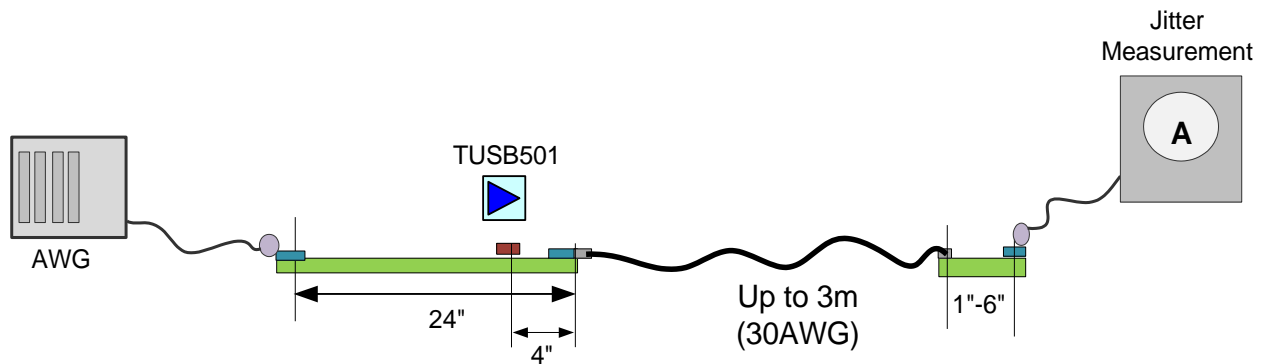

Figure 1. Jitter Measurement Setup
| $T_{\text{JTX-EYE}}$ | Total jitter ⁽¹⁾ ⁽²⁾ | EQ = Floating, OS = High, DE = High See Figure 1 . | | 0.213 | | UI ⁽³⁾ |
- (1) Includes R_J at 10⁻¹².
- (2) Measured at the ends of reference channel in Figure 1 with K28.5 pattern, V_{ID} = 1000 mV_{pp}, 5 Gbps, -3.5 dB de-emphasis from source.
- (3) UI = 200 ps.
- (4) R_J calculated as 14.069 times the RMS random jitter for 10⁻¹² BER.